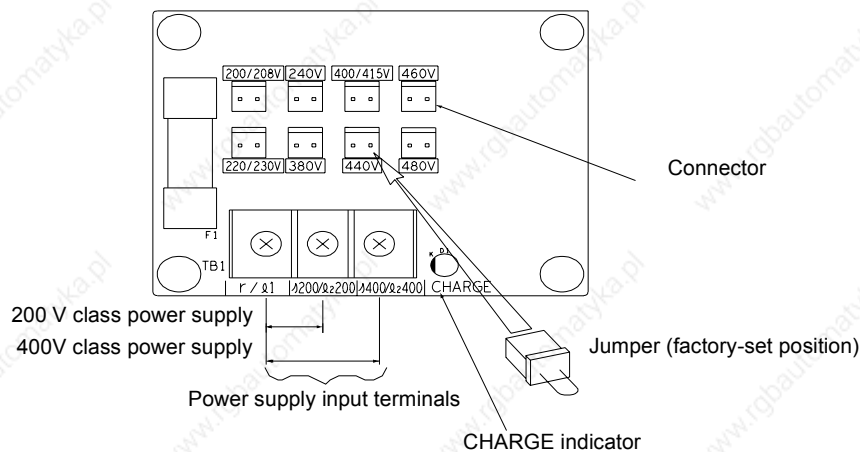

Fig 4.2 Large-capacity Inverter Connections
4. Insert the jumper at the position for the voltage supplied to the Inverter (see Fig 4.2).